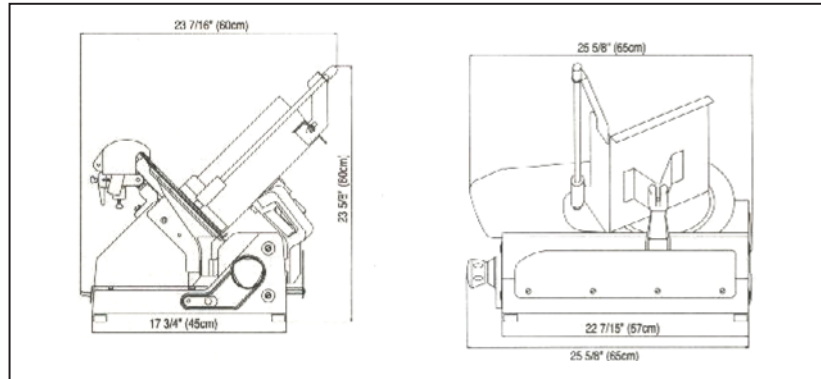

Fig. 14-1
2. Some manual slicers are equipped with a cleaning brace which raises the slicer to allow cleaning underneath. Push the food chute to the back of the slicer. Simply lift up the front of the slicer and pull the brace completely toward the front of the slicer and lower the unit. (Fig.14-1)